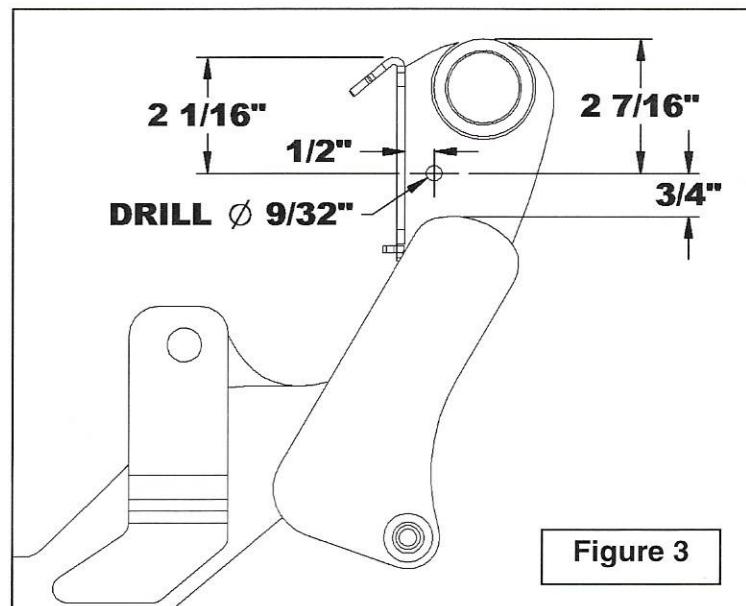

Figure 3
- 4. Figure 3:** Check if the \varnothing 9/32" hole shown in the figure is existing. Otherwise, drill one \varnothing 9/32" hole on the right side of the GR2700B subframe hitch according to the measure in the figure.